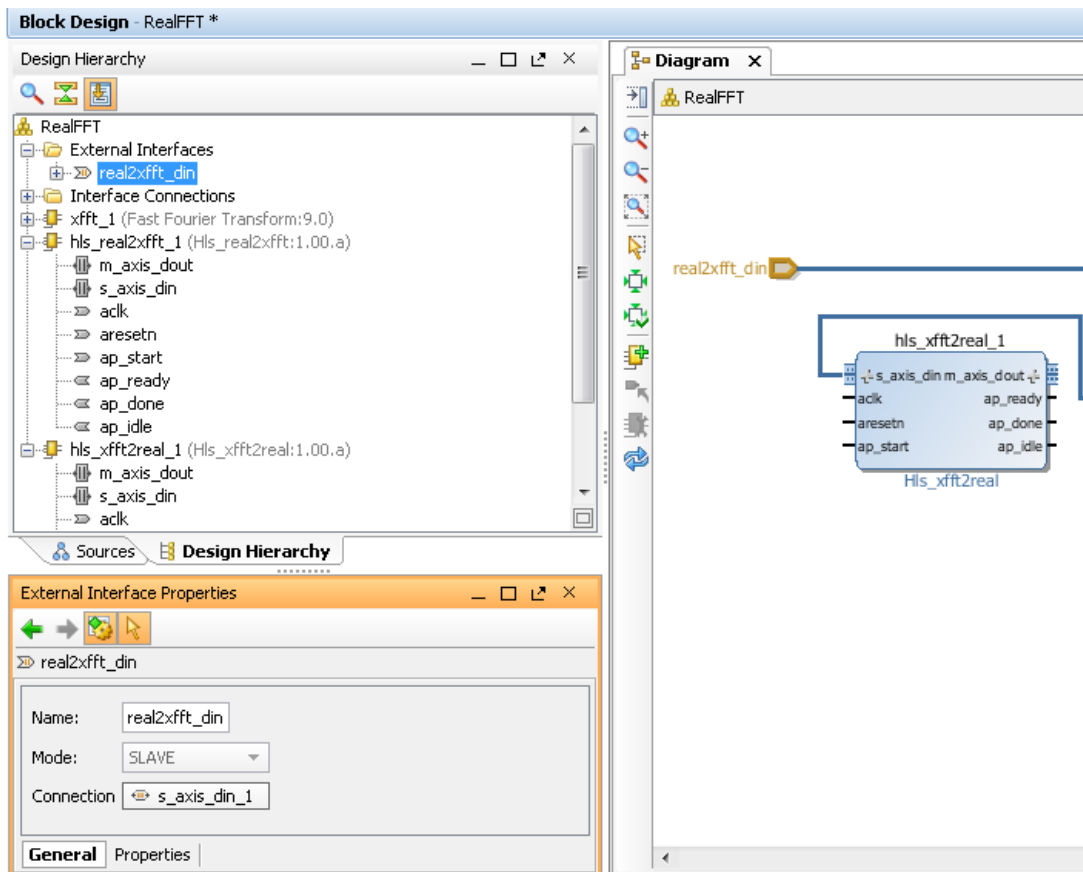

Figure 204: Port Naming
- b. In the **External Interface Properties** pane (Figure 204).